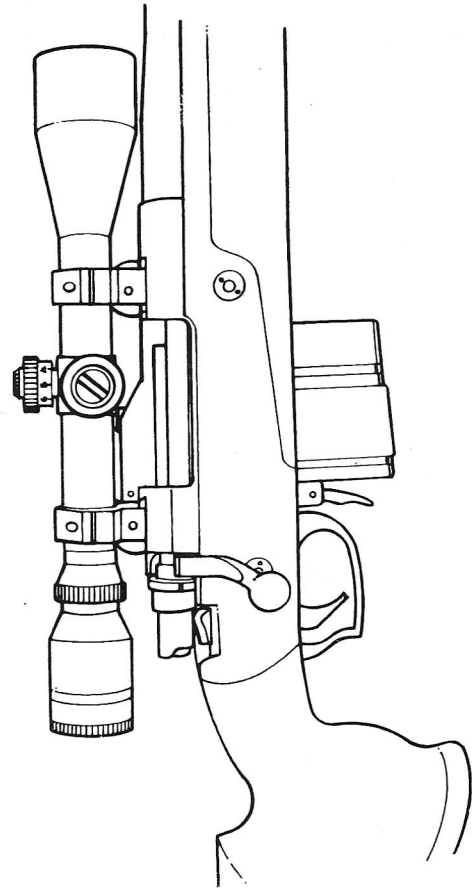

FIG. 8. TELESCOPIC SIGHT
- 3.3 Telescopic Sight 6 x 44 (Fig 8)